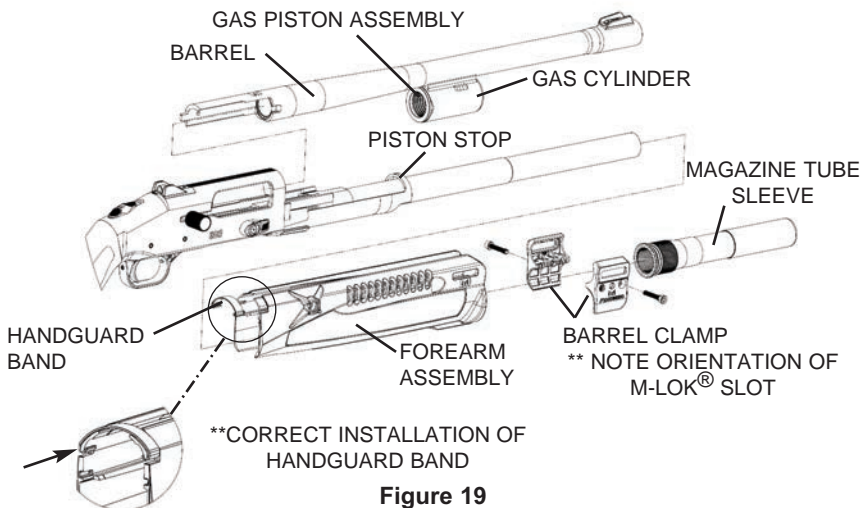

Figure 19
1. Reinsert the gas piston assembly into the gas cylinder portion of the barrel (Figure 19).
3. Slide the forearm assembly onto the magazine tube. When past the front sight and halfway onto the magazine tube, squeeze the rear of the forearm together slightly and slide the handguard band back onto the forearm assembly. **Ensure it is installed correctly as shown in Figure 19 or forearm assembly may bind.** Slide the forearm assembly fully rearward onto the magazine tube until seated against the piston stop.
4. Hand-tighten the magazine tube sleeve to secure the forearm assembly (Figure 19). **Do not over-tighten or you may damage the magazine tube.**
5. Install the barrel clamp by attaching the two halves. Note orientation of M-Lok[®] slot (Figure 19). Use a 5/32" allen key to tighten down the screws provided (one on each side). **Do not over-tighten or you may damage the magazine tube, barrel, and/or barrel clamp.**